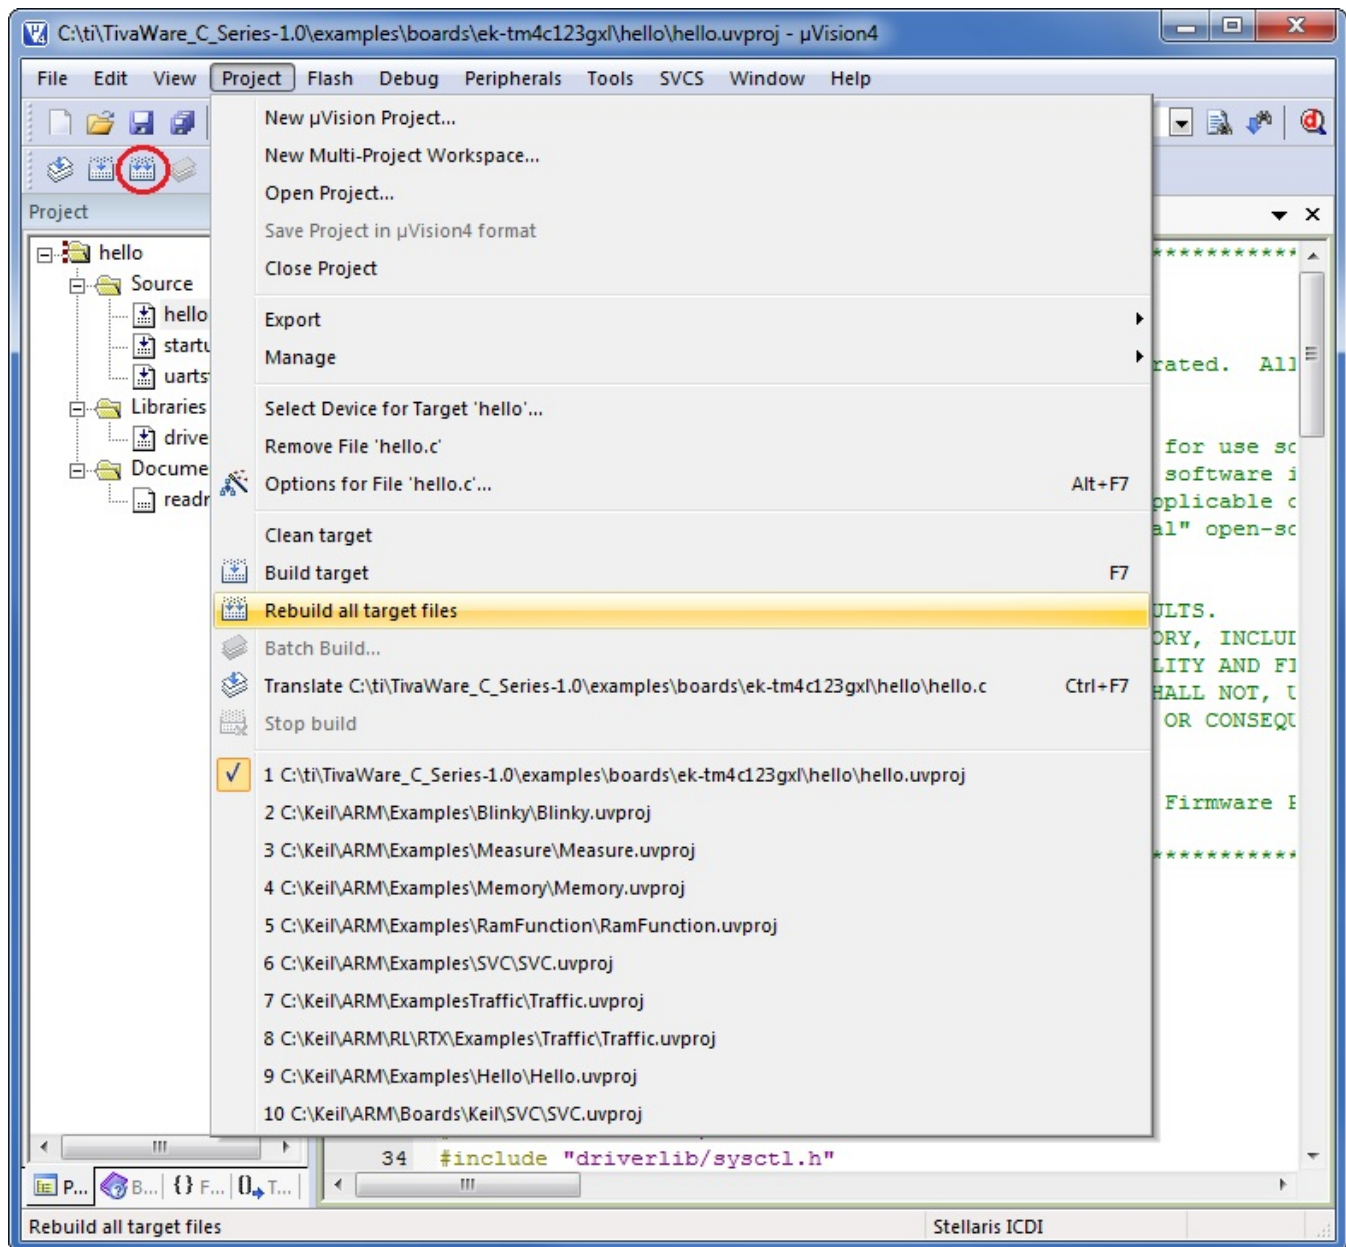

Figure 5.
1. Select Project → Rebuild all target files, or click the Rebuild all button (icon) (see Figure 5).